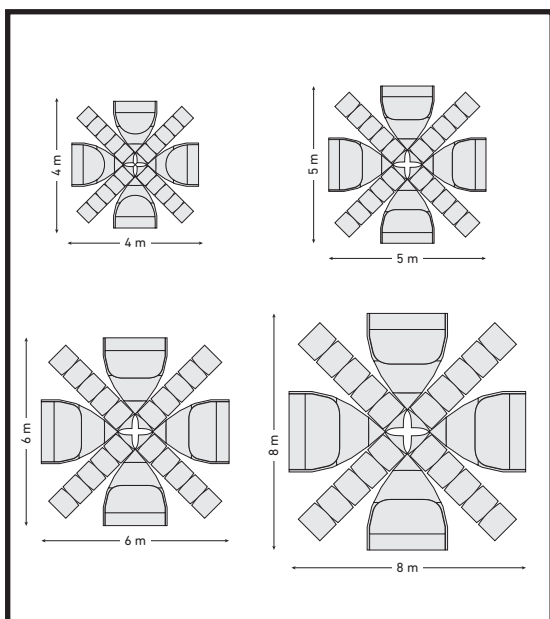

Fig. 1
1. Choose a flat even spot where you want to pitch the tent. Make sure the spot is big enough to do it (check the dimensions given in a corresponding picture) (Fig.1).